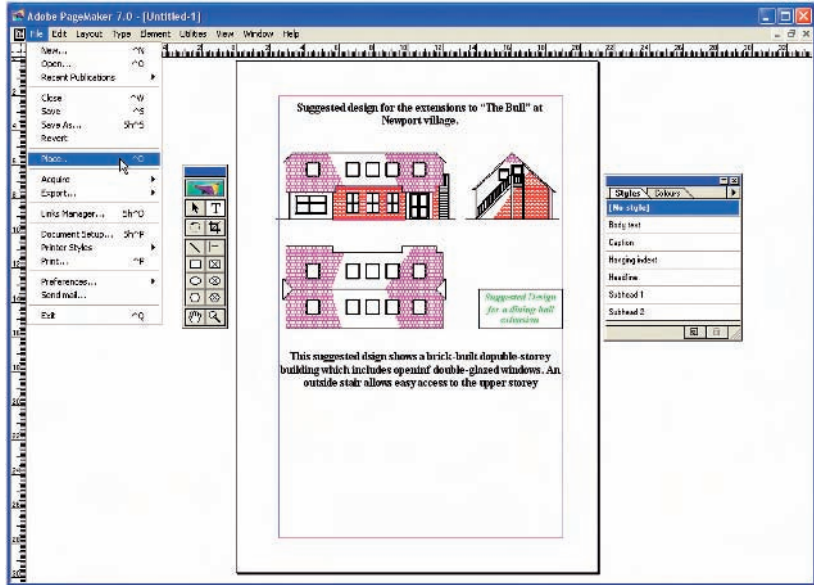

Fig. 10.5 An EPS file placed in position in a PageMaker document
Second example – EPS file (Fig. 10.5)
2. Open a desktop publishing application. That shown in Fig. 10.5 is **PageMaker**.
3. From the **File** drop-down menu *click* **Place . . .** A dialog appears listing files which can be placed in a PageMaker document. Among the files named will be **building.eps**. *Double-click* that file name and an icon appears, the placing of which determines the position of the *.eps file drawing in the PageMaker document (Fig. 10.5).